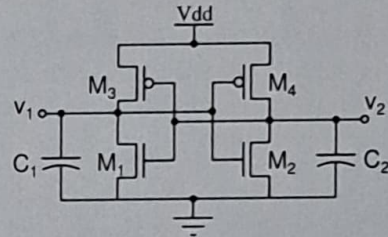

Figure 1
- (b) Consider the circuit shown in Fig. 1. It is given that at $t = 0$, $v_1 = v + x$, $v_2 = v - x$ and all transistors are in saturation. Derive the expression for the rate of change of the difference voltage (x) with respect to time. From the obtained expression, comment on the functionality of the circuit. [4]